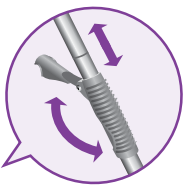

fig. 4
Push the handle toward the mop head in a pumping motion. Customise steam output by slow or fast mopping with a forward and backward motion. (**fig. 4**)
2 Wait 30 seconds for the boiler to heat the water. Pump the handle a few times to prime the pump, activate steam and moisten the microfibre pad. (**fig. 4**)
- 2 If there are loose threads on the microfibre cleaning pad carefully cut the thread with scissors. Don't pull on them or cut at the base. (fig. 4)